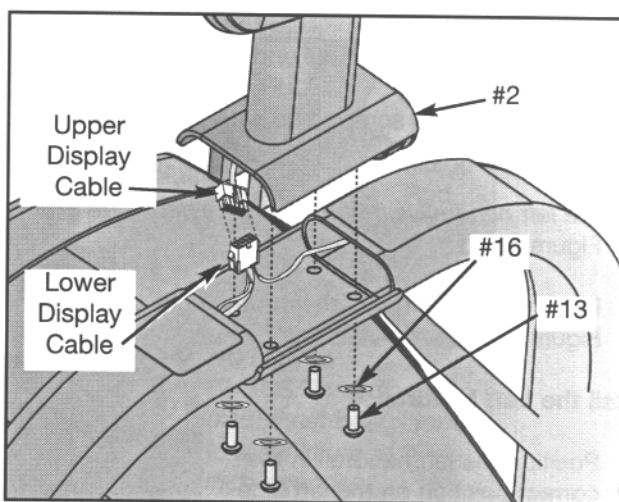

Figure 4
- B. Locate the upper display cable and plug it into the lower display cable in the main frame assembly. See Figure 4.
- C. Place the console assembly (#2) in the correct position on the main frame assembly and hand thread each of the four screws .375-16 x 1.50 (#13) and four washers (#16). See Figure 4.